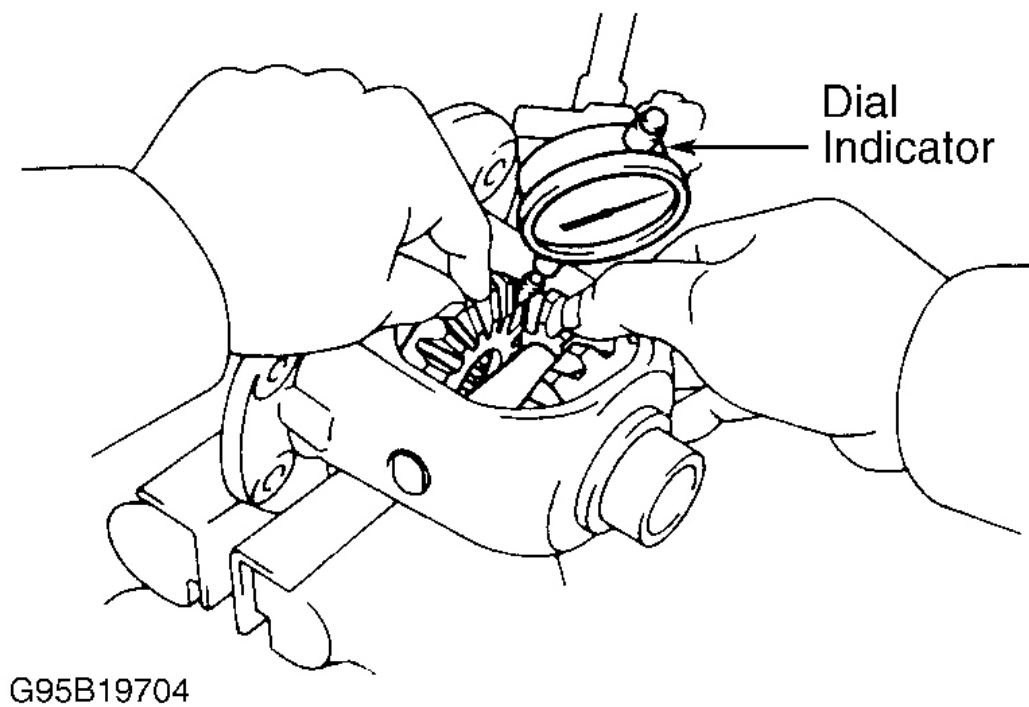

Fig. 69: Measuring Differential Pinion Gear Backlash
2. Use a dial indicator to check side gear backlash. Hold one pinion against differential case. Measure side gear backlash. See **Fig. 69**. Backlash should be .002-.008" (.05-.20 mm). If backlash is not within specification, side gear thrust washers must be replaced.
3. Drive out pinion shaft lock pin from ring gear side. Remove pinion shaft, pinion gears, side gears, and thrust washers. See **Fig. 69**. Remove oil seals from transaxle housing and transaxle case. Remove bearing outer races and shims from transaxle case and housing.